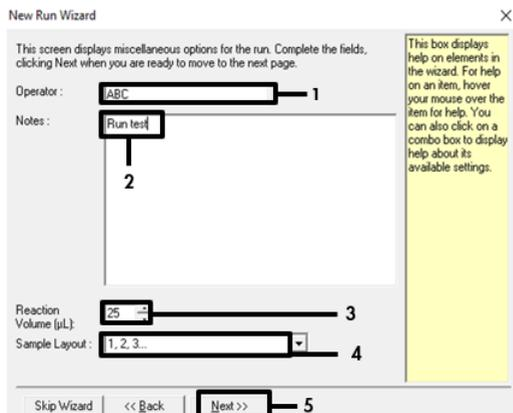

Figure 11. Adding notes. 1: “Operator”. 2: “Notes”. 3: “Reaction volume”. 4: “Sample layout”. 5: “Next”.
16. In the “Reaction Volume (µL)” field, set the value to **25**. Ensure that the “Sample Layout” field reads **1,2,3....**Click **Next** (Figure 11). Optionally, enter notes in the “Notes” field.